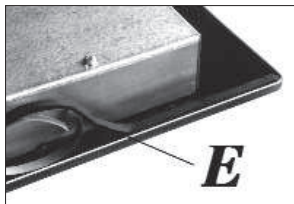

FIG. 14
- Overturn the hot plate and correctly position seal "E" (fig. 14) under the edge of the hot plate itself, so that the outer side of the seal perfectly matches the outer perimetral edge of the crystal. The ends of the strips must fit together without overlapping.